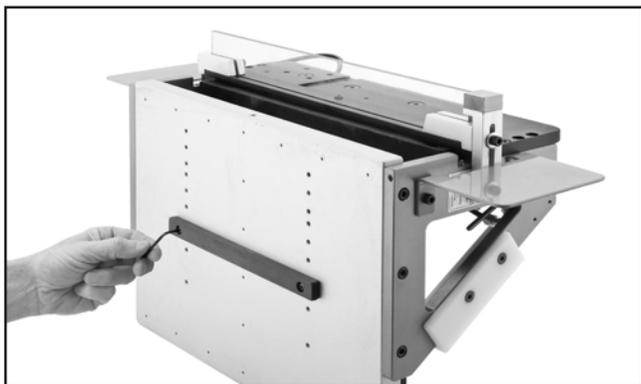

Figure 14. Attaching the miter bar to the jig.
The jig can use a $\frac{3}{8}$ x $\frac{3}{4}$ " miter bar for straight shaping and table saw operations. Nine positions allow you to adjust the jig-to-cutterhead distance. Attach the miter bar with (2) M5-.8 x 16 button head cap screws for Models T10460/T10462 and (3) M5-.8 x 16 button head cap screws for Model T10464, as shown in **Figure 14**.